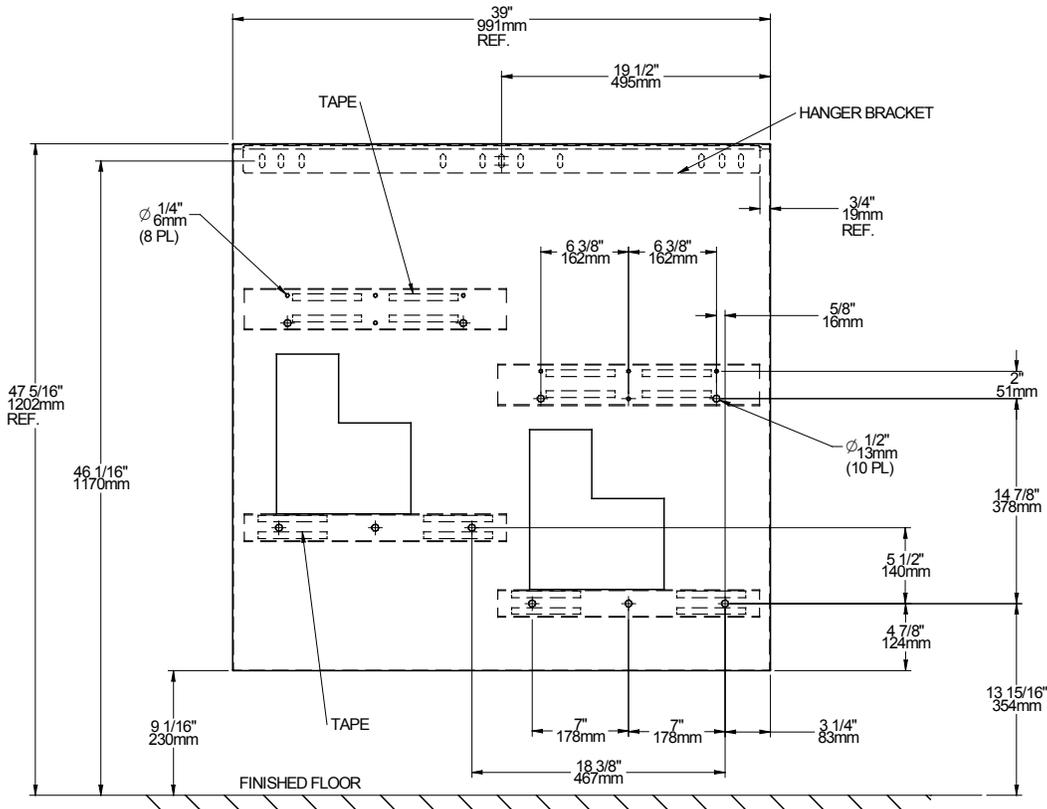

FIG. 1
- Locate and mark holes for the wall plate type and hanger bracket panel per Fig 1.
- Assemble wall plate by attaching top and bottom supports with double stick tape per Fig 1.